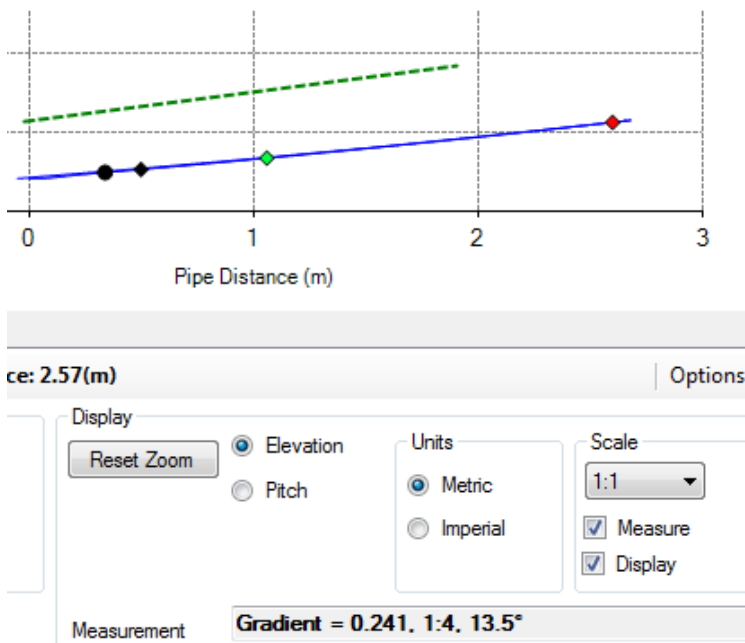

Figure 4.11d The Gradient Measuring Tool
- **Measure:** When this box is checked, it allows users to drag-and-click the mouse button between two points of interest, calculating the average slope between those points and displaying the details. This draws a green dotted-line along the pipe inclination chart and calculates the gradient between these points. The information is then displayed in the **Measurement** window in the bottom right window and in the final Word survey document. See figure 4.11d on the next page for an example.